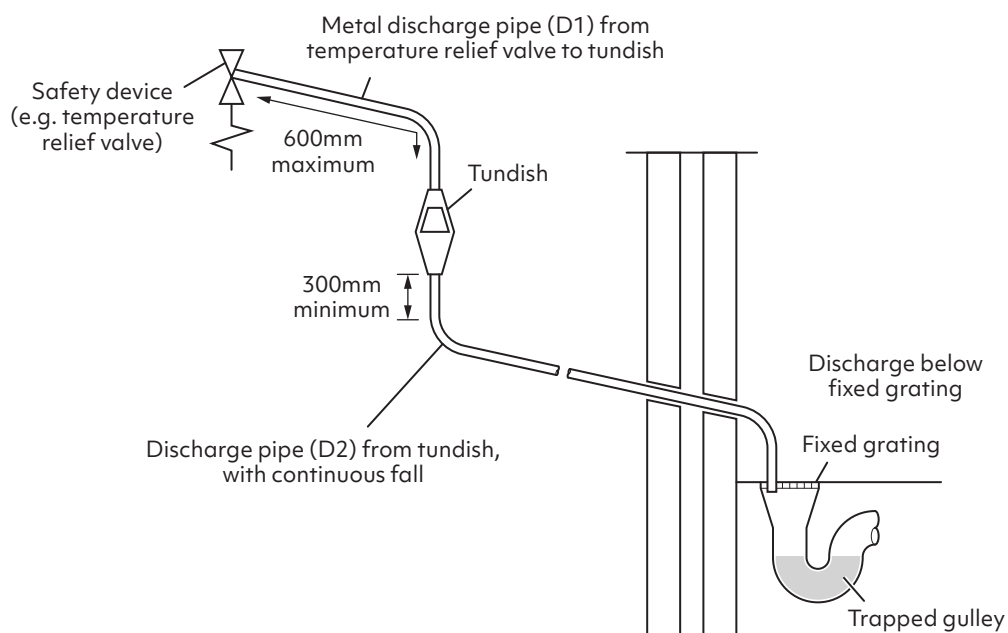

Fig. 13
- Safety devices such as temperature relief valves or combined temperature and pressure relief valves should discharge either directly or by way of a manifold via a short length of metal pipe (D1) to a tundish (Fig. 13).
- The discharge pipe (D2) from the tundish should have a vertical section of pipe at least 300mm long below the tundish before any elbows or bends in the pipework. It should be installed with a continuous fall of at least 1 in 200 (Fig. 13).